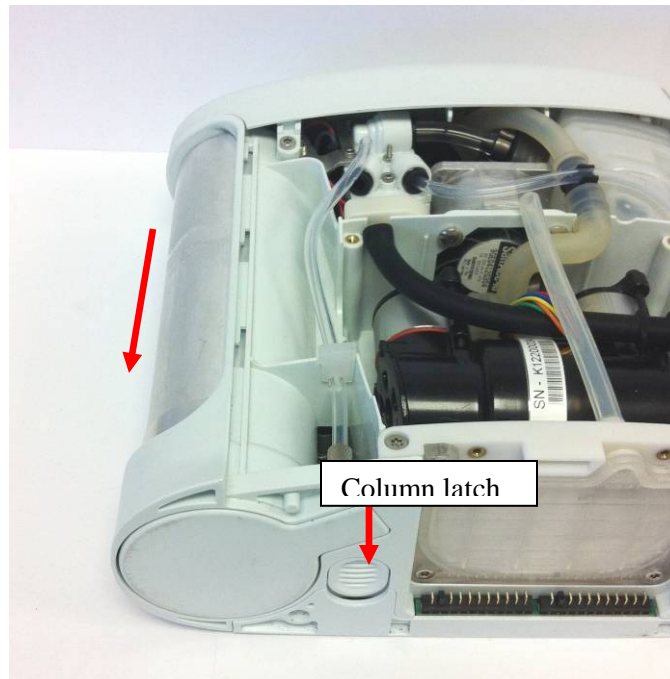

Figure 4: Location of column latch and direction to pull column
3. In order to remove the receptacle, the corresponding column must be removed. Locate the column latch on the underside of the device (Figure 4) and push downward on it while simultaneously pulling the column out of the chassis. Remove the column and set aside.